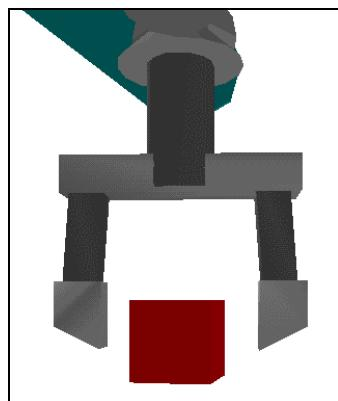

Figure 2-7
- 2** Open the gripper. Take and carefully hold a round or square block between the gripper fingers as shown in Figure 2-7. Close the gripper on the block.